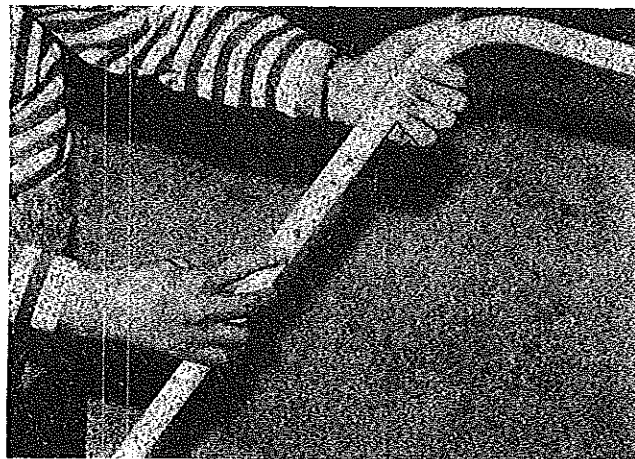

FIGURE 34
33. Adjust bed bow support as necessary to make the tent enclosure over the bed taut. This is done by pressing the release button on the pole and extending the rod to the next adjustable hole. See Figure 34